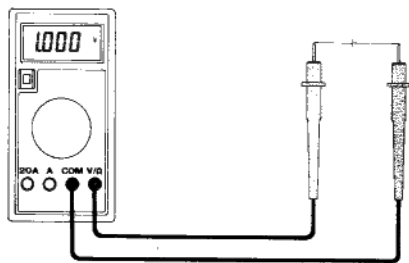

Fig. 5-2 DC Voltage Measurement
2. Turn the Rotary switch to the DC V range to be used and connect the test leads across the source or load under measurement. See Figure 5-2.